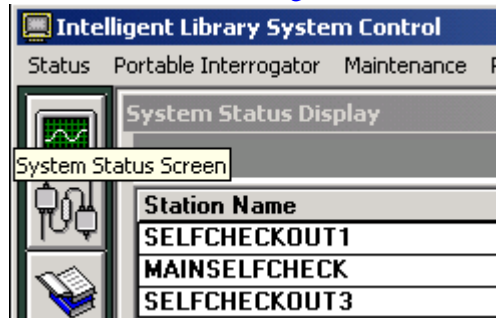

Figure 2.3 System Status Button
- ▶ Click **System Status** in the button bar. See Figure 2.3.